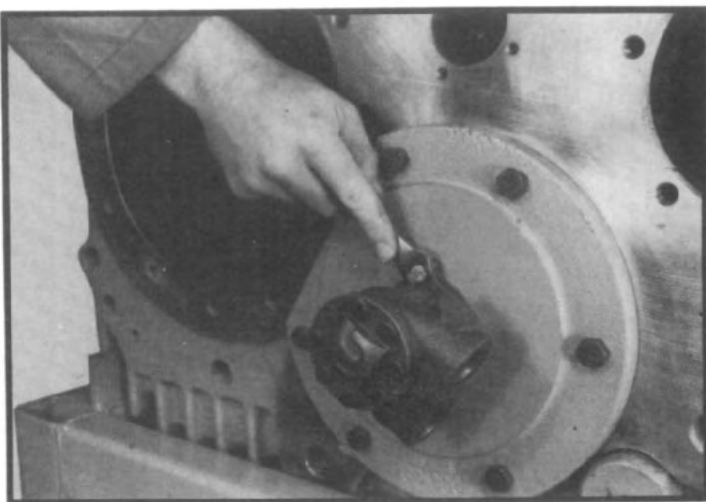

Fig. 76
1. Remove three capscrews holding oil pump to rear bearing cap. (See fig. 76.)